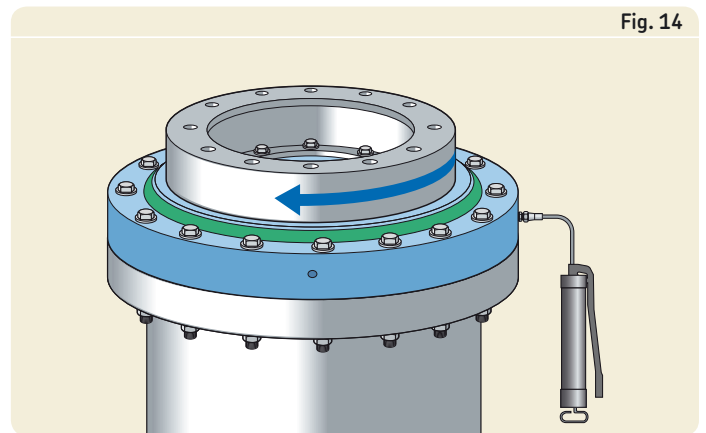

Fig. 14
- 17** Supply grease to the raceway via the grease fittings provided in one of the bearing rings (**fig. 14**). If applicable, rotate the bearing during the greasing operation. If a centralized lubricating system will be used, connect the lubricating tubes to the bearing.